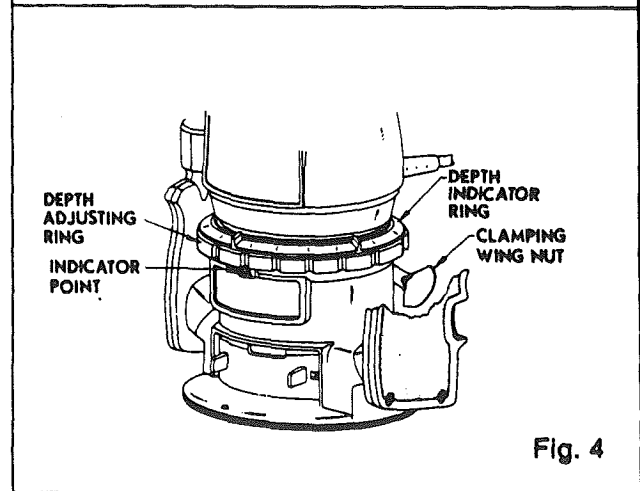

Fig. 4
1. Place the router on a flat surface, loosen clamping Wing Nut, and adjust until cutter is inside subbase. See figure 4.
2. Turn the depth adjusting ring until tip of cutter touches flat surface. Turn the depth indicator ring until the zero lines up with the indicator point on the base. See figure 4.